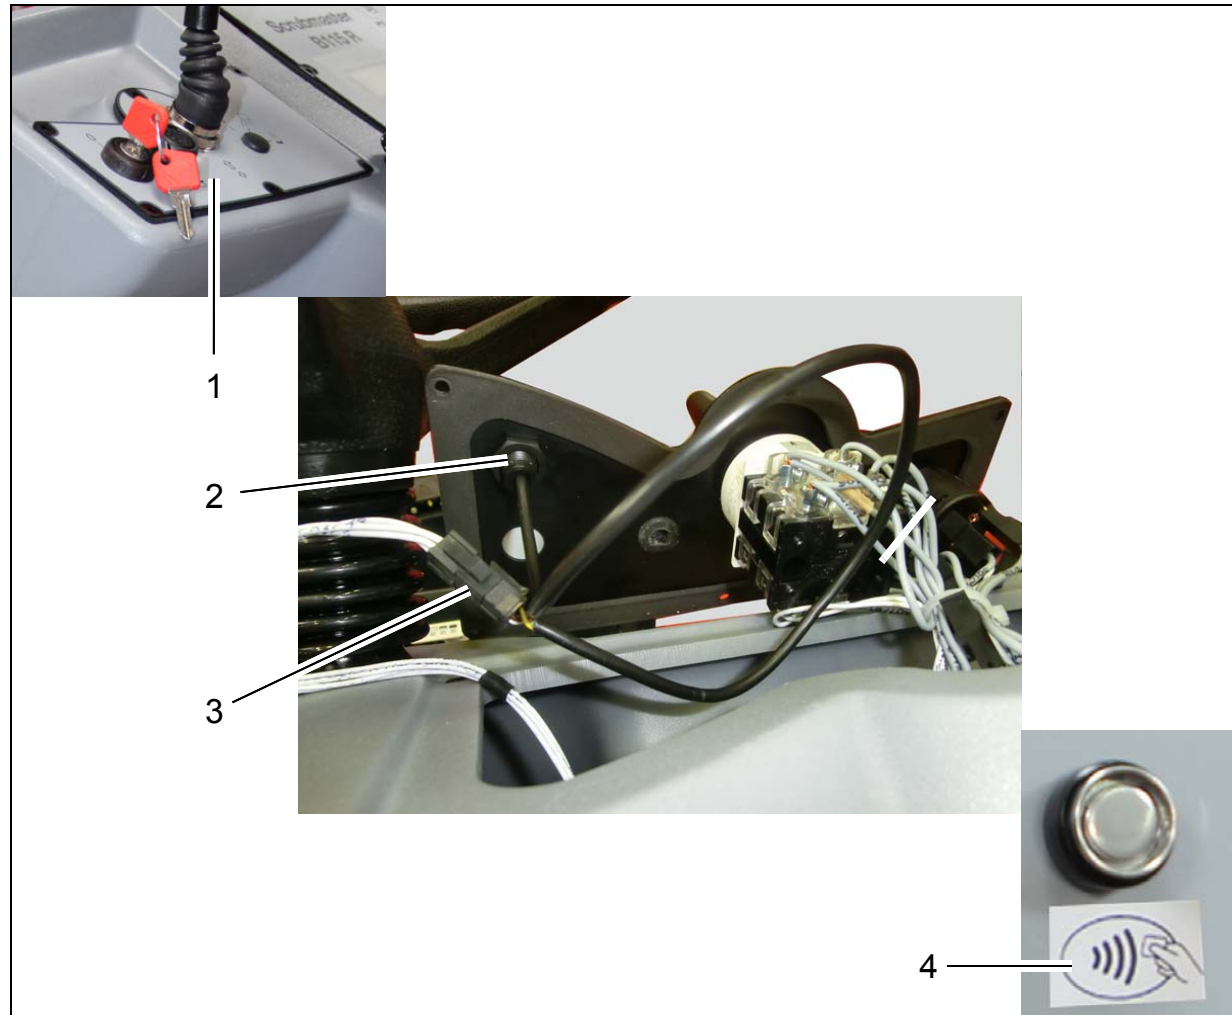

Fig. 7
1. Disassemble the control panel on the left-hand side (Fig. 7/1).
2. Cut into the film in the area of the top left hole on the rear of the control panel (Fig. 7/2).
4. Connect the plug of the I-Button-Reader to the 4-pole plug B20/X1 of the W78 cable loom (Fig. 7/3).
8. Position the RFID lock sticker underneath the I-Button-Reader (Fig. 7/4).